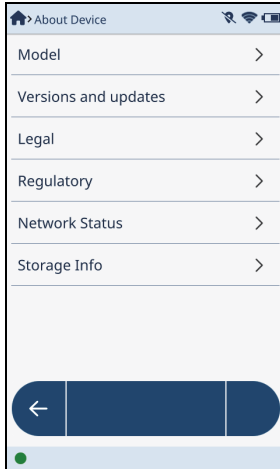

Figure 4-21 About Device screen
- ◆ Tap the **About Device** button () in the **Menu Tray** to open the **About Device** screen (see Figure 4-21 on page 132).